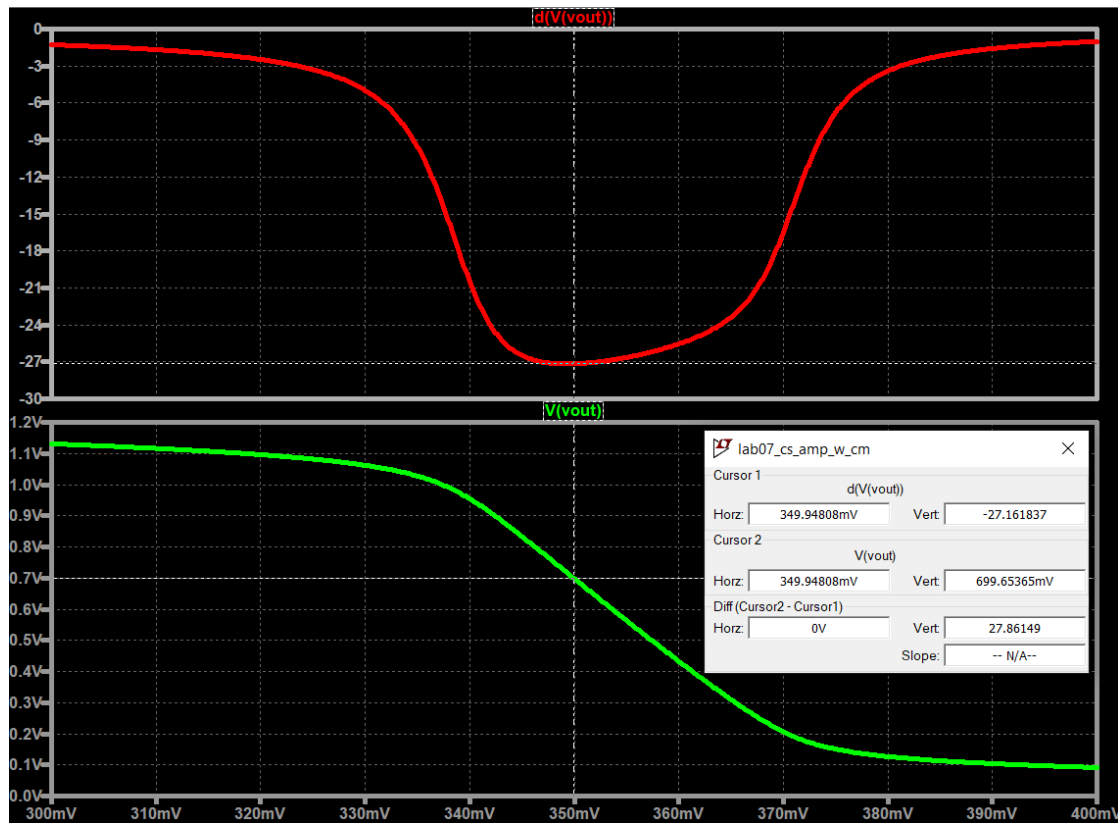

Figure 2.12 A_v and V_{OUT} simulation for the setup in Figure 2.11
4. Go ahead and run the simulation. Plot A_v and V_{OUT} with changing V_{GS} . You should get Figure 2.12.
- Show a plot similar to Figure 2.12. Make sure to show via cursors what A_v is when $V_{GS} = 0.35 \text{ V}$ and what V_{GS} is when $V_{OUT} = 0.6 \text{ V}$.